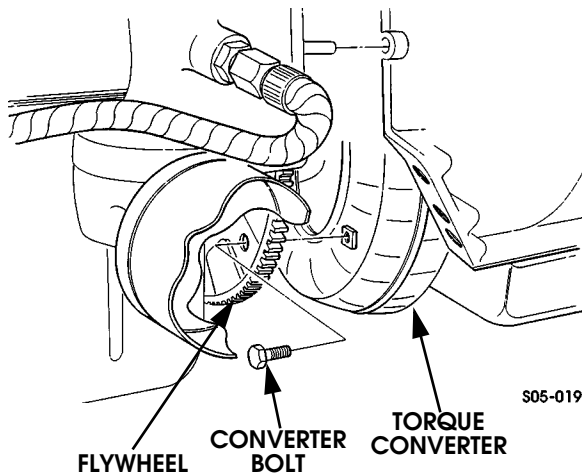

Figure 2-72: Converter Bolt Removal/Installation
- Remove torque converter attaching bolts (Figure 2-72).